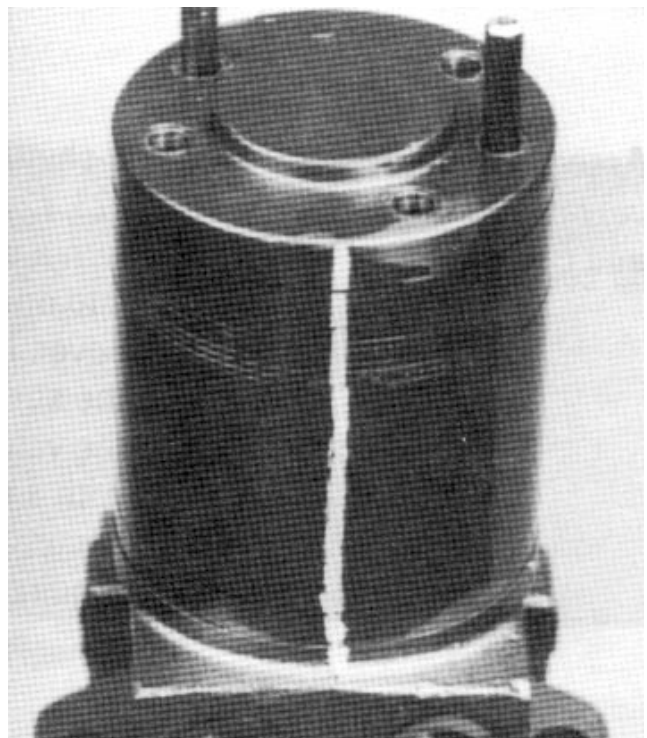

Figure 50
21. Assemble new seal ring (5) into end cover (24) and assemble end cover over the alignment studs and onto the commutator set (Fig. 50).